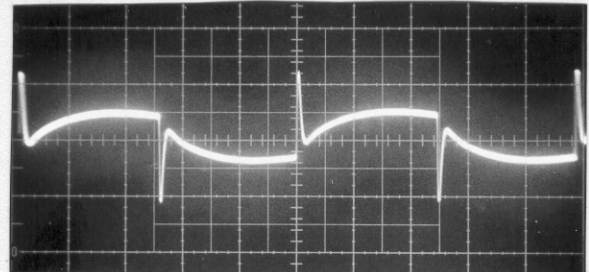

Fig. 11. Contour in.
- 7) Engage contour switch, compare to Fig. 11. Disengage.